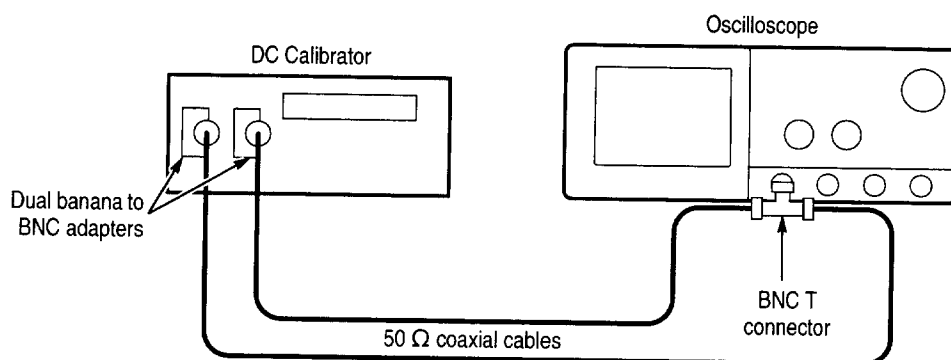

Figure 1–25: Subsequent test hookup
- Connect the output of a DC calibration generator through a dual-banana connector followed by a 50 Ω precision coaxial cable to one side of a BNC T connector. See Figure 1–25.
- Connect the Sense output of the generator through a second dual-banana connector followed by a 50 Ω precision coaxial cable to the other side of the BNC T connector. Now connect the BNC T connector to **CH 1**. See Figure 1–25.